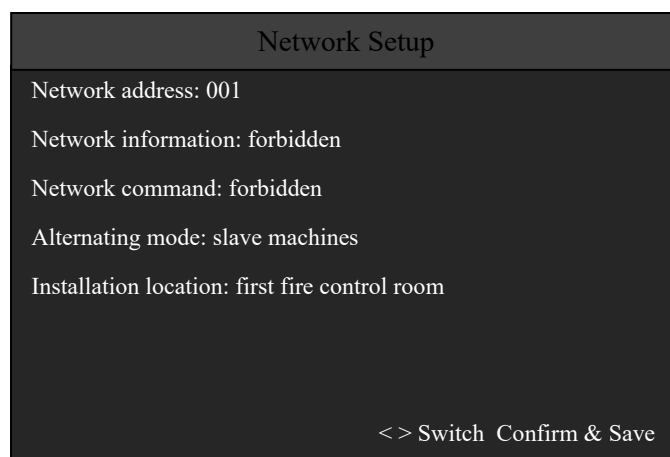

Fig. 3-24 Control panel setup
In system setup interface, press number key 1 or move the cursor to 1, press "√" key to go into network setup interface. In this interface, set up control panel network address, installation position, network information and network command receiving and sending configuration as shown in Fig. 3-24.